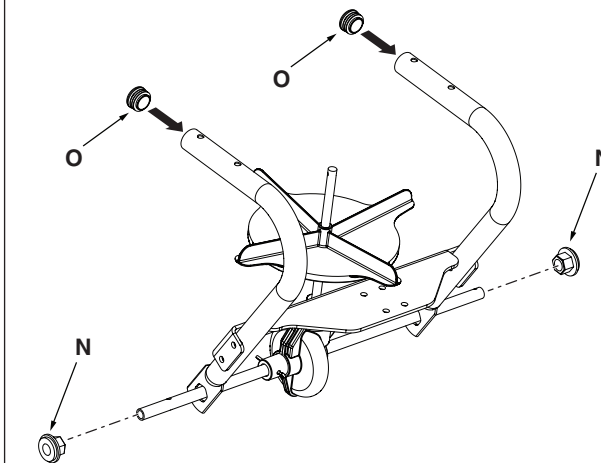

Figure 5
STEP 5: (SEE FIGURE 5)
- Assemble the plugs (O) into the frame and slide the flange bearings (N) onto the axle and secure in the frame.